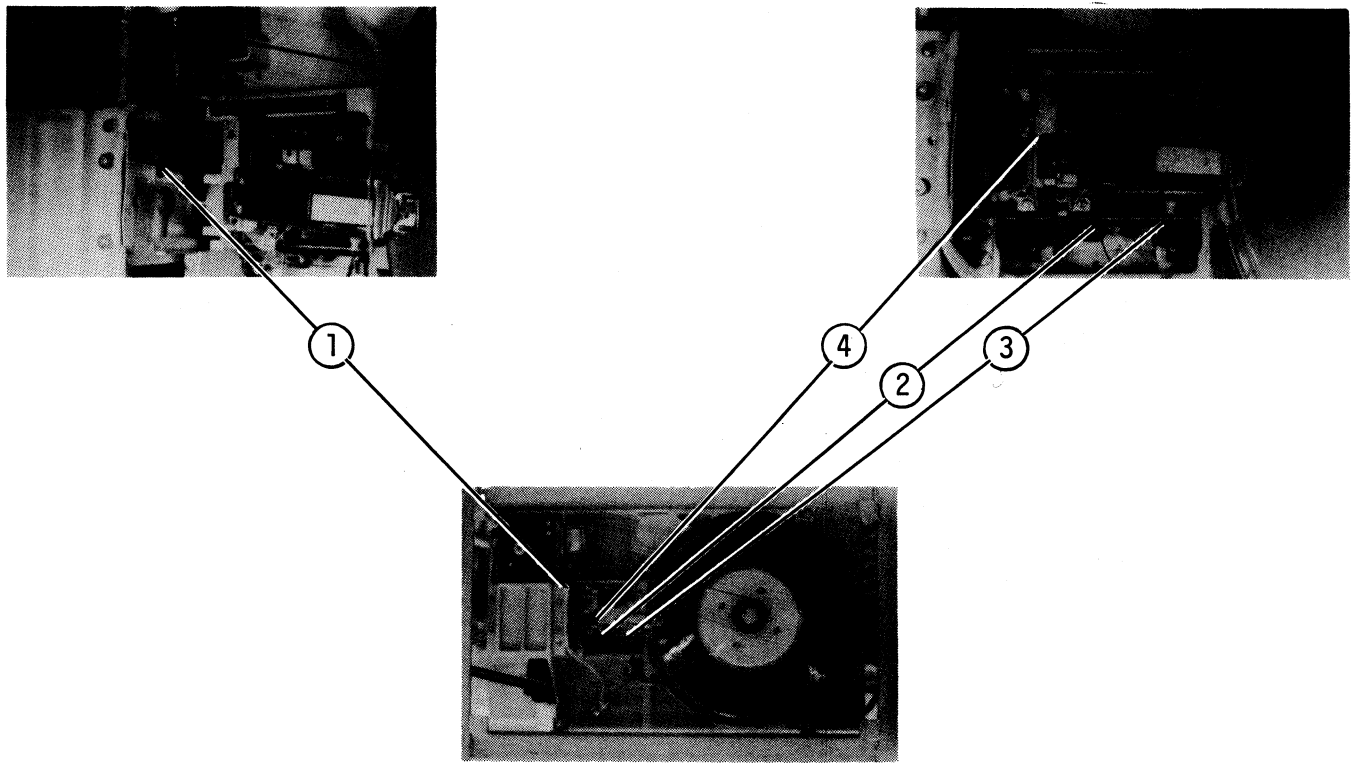

Figure 5-3. Lubrication Locator
1. HEAD LOAD PIVOT - Apply one drop of #19 oil to each pivot point; remove excess oil with lint-free tissue (see Figure 5-3).